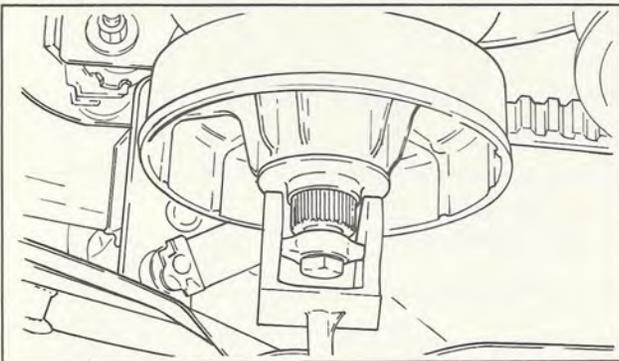

Fig. 3-8
- (2) Install the bushing, spring seat, V-belt, compression spring, and primary sliding sheave complete on the primary fixed sheave. Compress the compression spring using primary sheave installer/remover 2 and install primary sheave installer/remover 1. (Figs. 3-8,3-9)